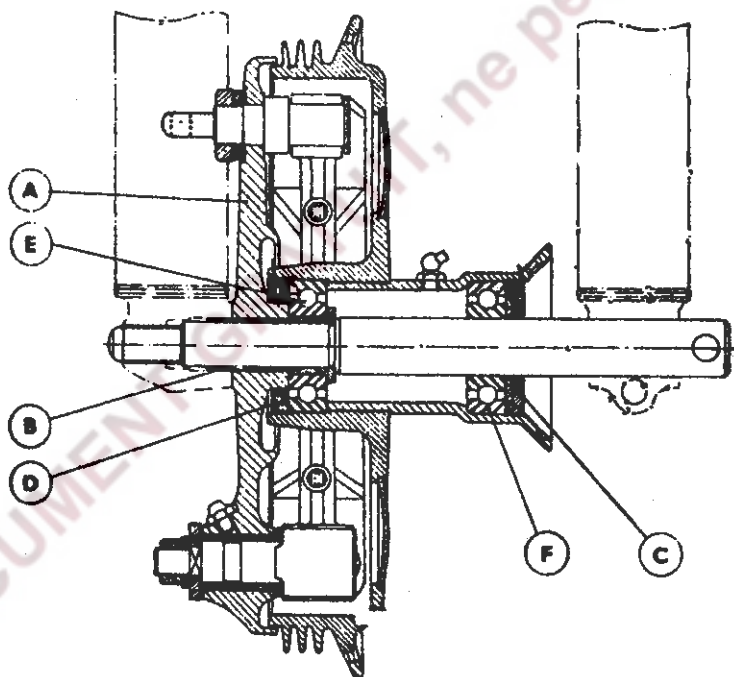

FIG. F.12. *Section of front hub.*
The brake plate (A) is a push-fit on the bush (B) (see Fig. F.12).